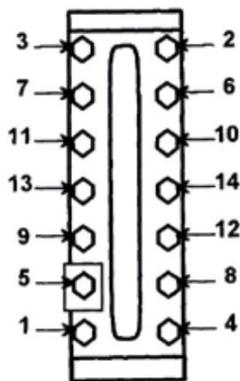

FIGURE 2
3. Using a torque wrench, tighten nuts in 5 ft·lb (7 Nm) increments, following the sequence in Figure 2 until a torque value of 25 to 30 ft·lb (34 to 41 Nm) is reached.
9. Install nameplate, washer, Belleville washers (2 per nut if used) and nuts. Using a torque wrench, tighten nuts in 5 ft·lb (7 Nm) increments, following the sequence in Figure 2 until the torque values in Table 2 are achieved.
Using a torque wrench, tighten nuts in 5 ft·lb (7 Nm) increments following the 'Z' pattern sequence in Figure 2, until the torque values shown in Table 2 for the specific liquid level gage are reached. For multiple section gages, torque the center section(s) and work progressively toward the ends of the gage. If bolting, gasketing or glass on any section of a multi-section gage is disturbed, all sections must be checked for integrity and retorqued as necessary.
**Note:** depending on gage size there may be less bolting than shown in Figure 2. Start at the center and follow the 'Z' pattern outward to the limit of bolting on a specific gage.
Belleville washers are used to reduce the need to retorqued nuts. This is especially important for gages subject to pressure and/or thermal cycling. The conical washers allow for material expansion and contraction while maintaining axial bolt loading and, therefore, compression on the gasket. Model RMW and TMW gages require 2 washers per nut. Washers should be assembled with the cupped side facing the gage cover. Refer to Figure 5 for proper washer assembly. Using a torque wrench, tighten nuts in 5 ft·lb (7 Nm) increments following the 'Z' pattern sequence in Figure 2 until the torque values shown in Table 2 are reached.